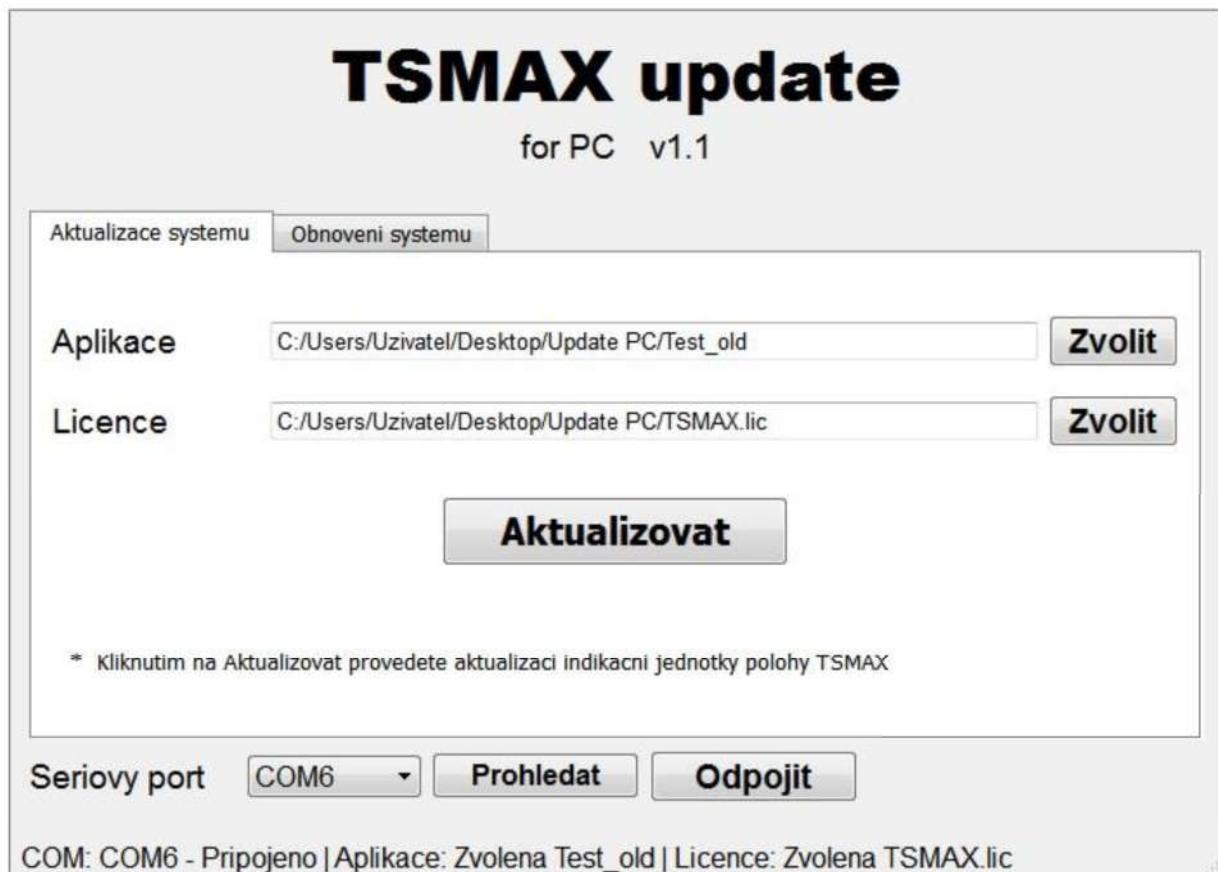

Fig. 53: System update – prepared for update
- ⑩ At first press button „**Prohledat**“ (search) to search all series ports used in PC. Then select the specific series port where the readout unit is connected.
- ⑩ Now it is necessary to select the application file for the update and the license file using buttons „**Zvolit**“ (select).
- ⑩ Finally press button „**Pripojit**“ (connect).
- ⑩ If everything is ok, the button for „**Aktualizovat**“ (update) is available (see fig. 53: System update – prepared for update).